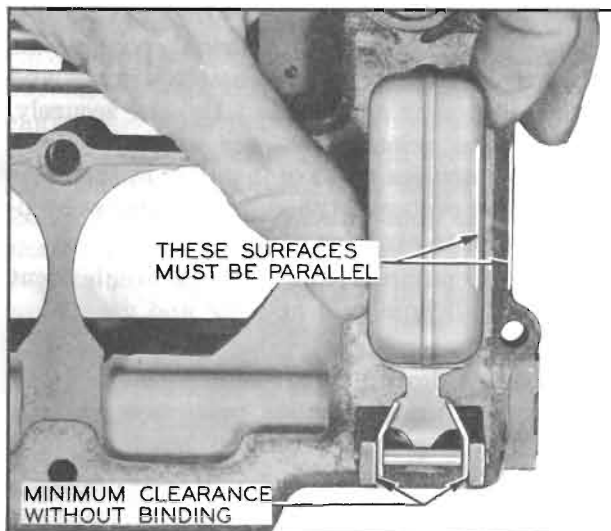

Figure 3-51—Float Alignment
9. *Align Float.* Sight down side of float to determine if side is parallel with outer edge of air horn. If adjustment is necessary, bend float lever by applying pressure to end of float with fingers while supporting float lever with thumb. See figure 3-51.